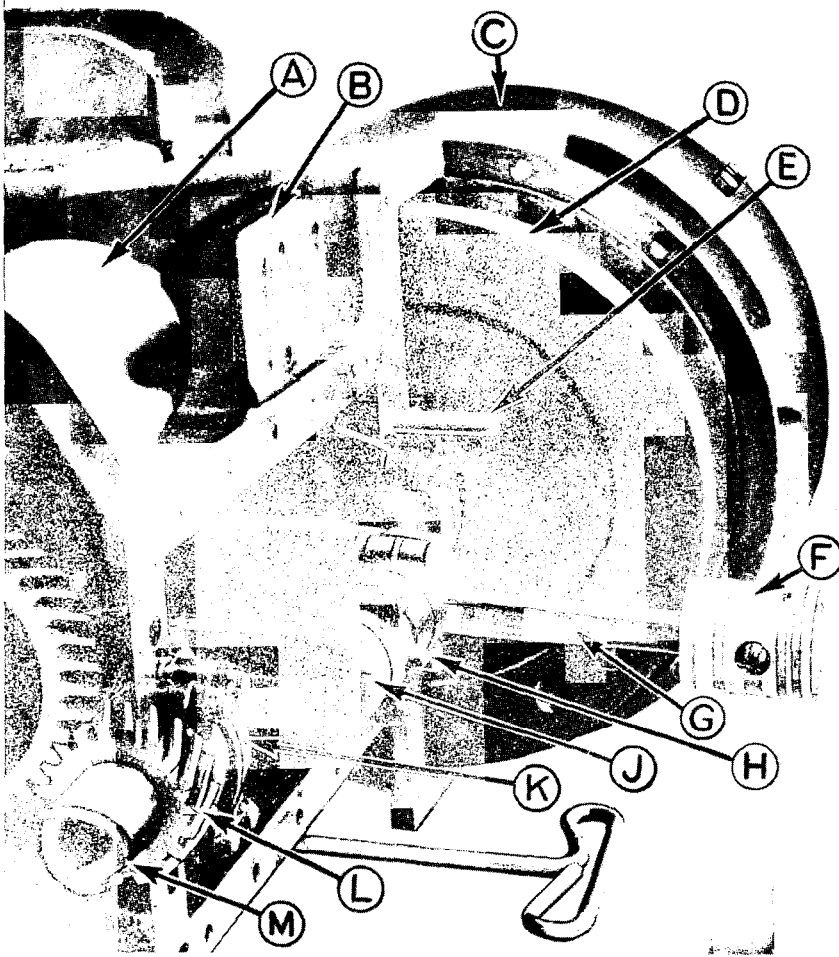

Figure 24
b. *Fitting New Connecting Rod Bearings.* New rod bearings must be fitted properly to the crankshaft. To do so, wipe the shaft and bearing clean and then apply a little Persian red or blue, mixed in oil, to the shaft. Place the bearing half on the shaft, and slide it back and forth around the pin. Remove the bearing and note the impression on it. Cut down the high spots on the bearing with a bearing scraper, and repeat the rubbing test. At least 80 percent of the bearing should touch the shaft. After fitting the bearings, adjust the bearing clearance of each connecting rod on the crankshaft individually. Connect each rod to the shaft, putting in sufficient shims to secure proper clearance. If the rods are attached so that they are left out of the cylinder when bearing clearance is adjusted (Fig. 24) the clearance can be tested by raising the rod to a horizontal position after the bolts have been tightened. If the rod gradually drops, due to its own weight, the fit is approximately correct. The bearings should not bind, and should be able to be moved laterally slightly. Be sure to replace all cotter pins on bearing studs after tightening nuts.